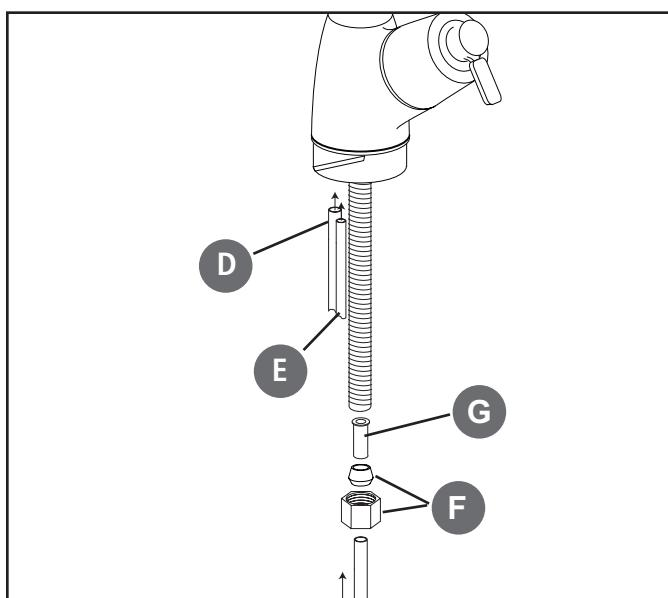

Figure 5
C) Look down through the base for this step. Before tightening the bolts, determine the correct rotation of the base. The final position of the handle will be 45 degrees off from the bolt heads. Use Figure 5 to help determine the best position for your installation.